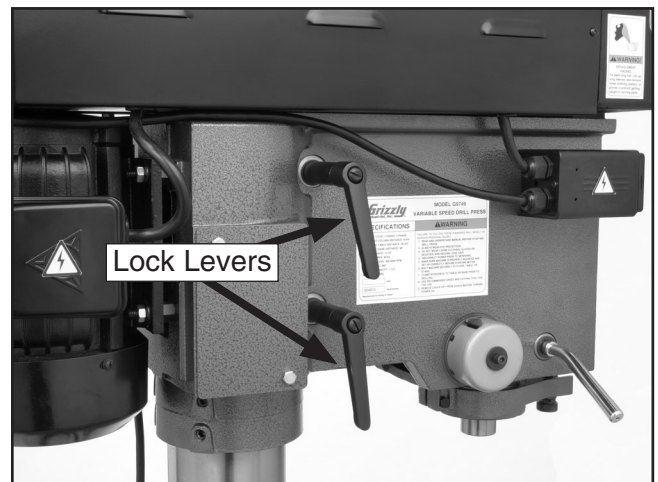

Figure 20. Headstock lock levers.
2. Rotate the two headstock lock levers counterclockwise to loosen them (see **Figure 20**).